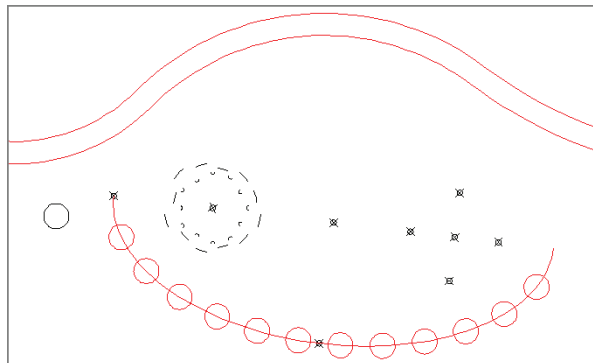

FIGURE 5.11 Dividing an elliptical arc with blocks
9. Type **13** (for the number of segments), and press Enter. The DIVIDE command always creates one less point or block than the number of segments into which the object is divided. Twelve "shrubs" appear along the elliptical arc (see Figure 5.11).